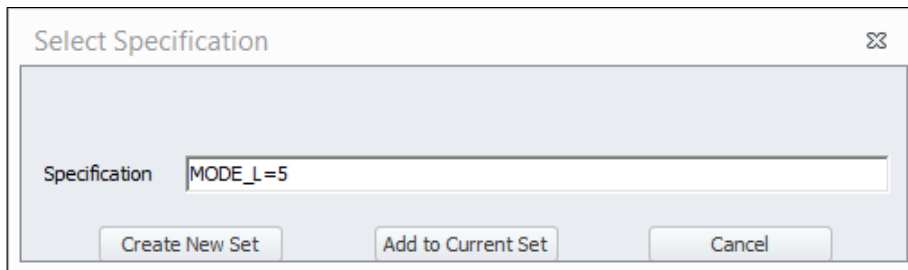

Figure 67 The Select Specification window.
- 2) In the Select Specification window, right click in the blank field to see the attribute list (note: it only shows attributes from the active layer – to access other attributes, select another layer in the TOC), select the attribute for applying the condition (in the example in Figure 67, select all the links on mode 5 – air)